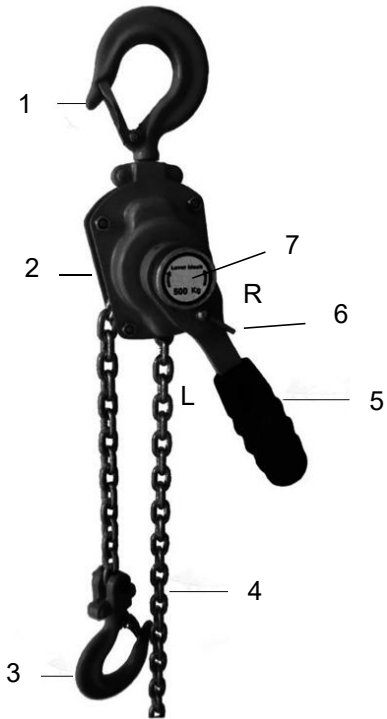

Fig. 1
10. Instructions of Shift Handle: (Fig. 1)